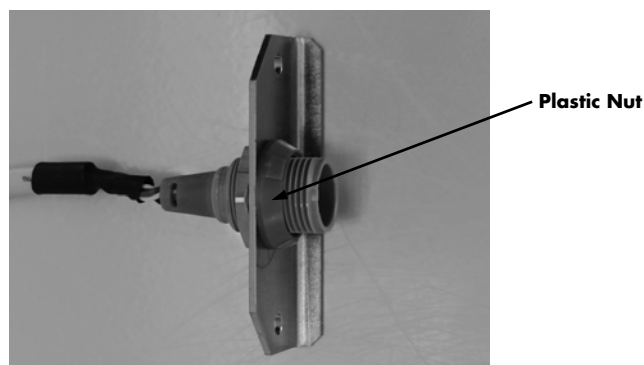

FIGURE 4-11 For DPM SpO₂ only, unscrew the plastic nut.
9. For DPM SpO₂ only, unscrew the plastic nut for the DPM SpO₂ signal cable (as shown in Figure 4-11).